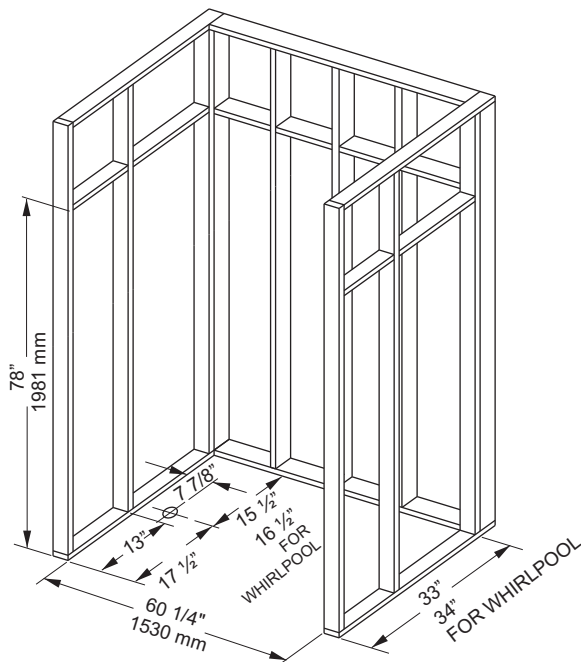
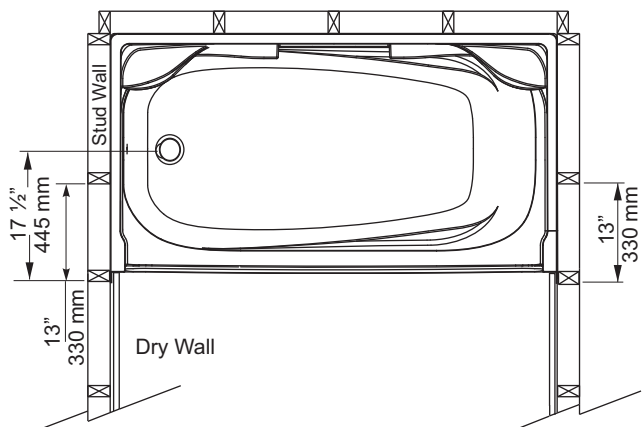

FIGURE 1 - LAYOUT DIMENSIONS
FIGURE 2 - SHOWING THE TOP VIEW OF THE SHOWER IN THE ALCOVE.
The Tub Shower is to fit into framed alcove as shown in Figure 1 and Figure 2.
- Framing: Inside dimension of the studded alcove are to be as specified in Figure 1.
- Build solid framing to the dimensions in Figure 1.
- The drain location on the tub shower is shown in figure 1.